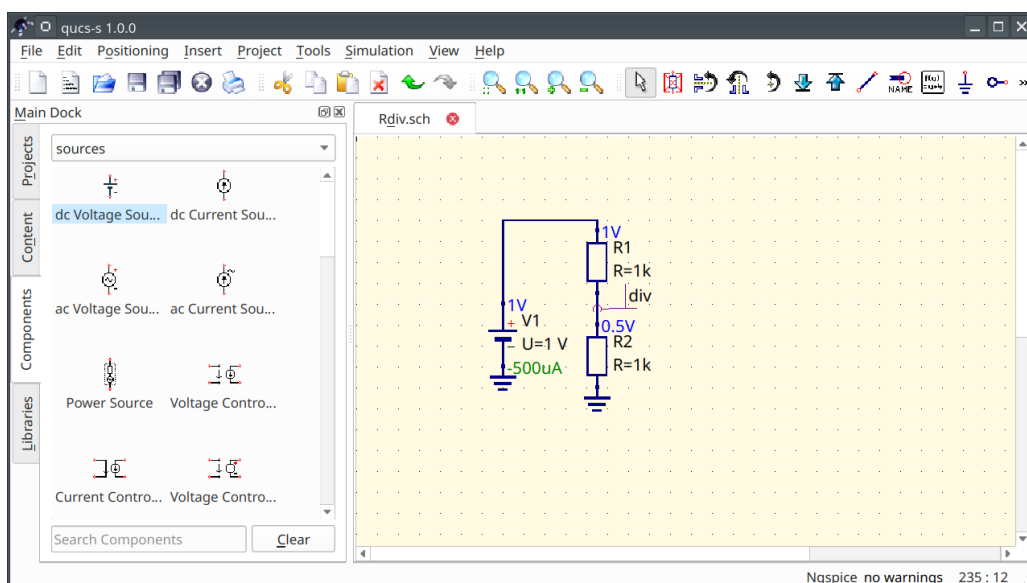

Figure 11: Operating point simulation of the voltage divider
- Show operating point directly on the circuit. This mode is activated when pressing F8 keyboard shortcut or using *Simulation- \rightarrow Show bias* menu entry. See the Fig. 11 for example of such simulation.